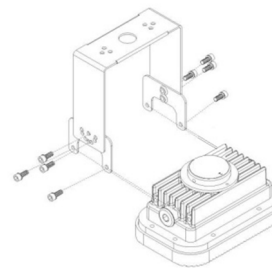

Figure 4
- ☞ Position the bracket holders and fix it by means of the provided M6 screws, 24.5 kgf-cm. (Figure 4)